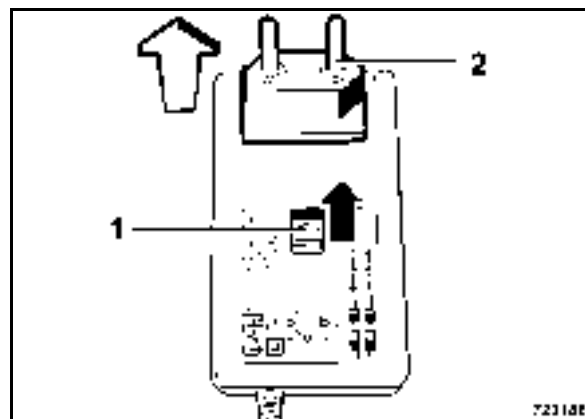

Fig. 77
- Push lock 1 (Fig. 77) on the mains unit of the battery charger forward and pull plug (2) upward out of the mains unit.